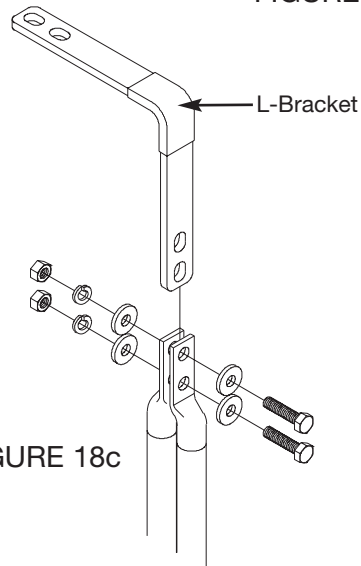

FIGURE 18c
6. Assemble the cable(s) to the L-Bracket before attaching either end to the system as shown in Figure 18c.